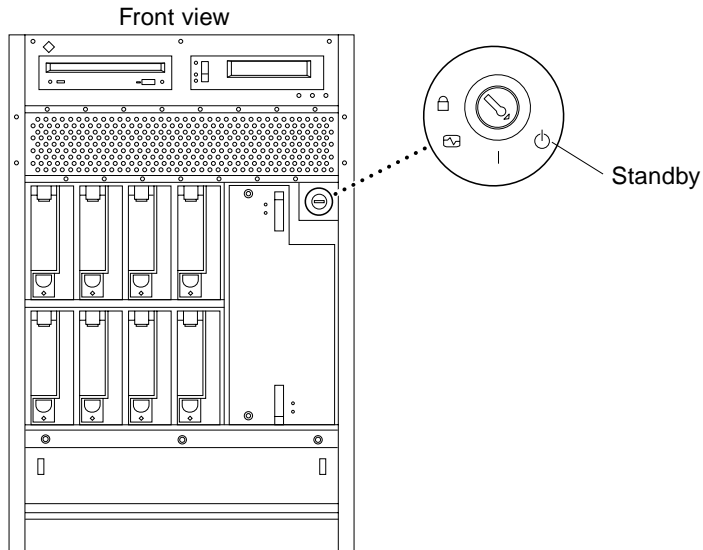

FIGURE 11-1 Key Switch Standby Position
- 6. Locate the system key switch in the upper right corner, and turn the key switch to the Standby position (fully counterclockwise). See FIGURE 11-1.**
2. **Locate the system key switch in the upper right corner, and turn the key switch to the standby position (⊖). See FIGURE 11-1.**
See FIGURE 11-1. Several things will happen: